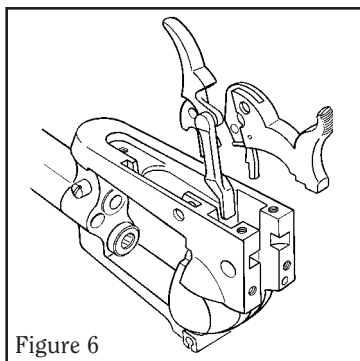

Figure 6
- Remove hammer pivot. Then remove the hammer/pawl assembly and the trigger/transfer bar assembly. (Note that the hammer is attached to the pawl and the transfer bar is attached to the trigger. See Figure 6.)
- Assemble pawl to hammer and transfer bar to trigger as shown in Figure 6. Partially insert hammer/pawl assembly in its recess in the frame. Insert trigger/transfer bar assembly in its slot in the frame. Then simultaneously complete insertion of the two assemblies into the frame.